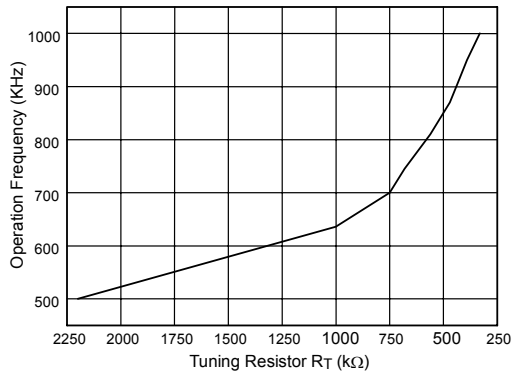

Fig. 15 Operation Frequency vs. Tuning Resistor
- PIN 5: RT- Frequency Adjustable Pin connecting to GND through a resistor to increase frequency. (Refer to Fig. 15)